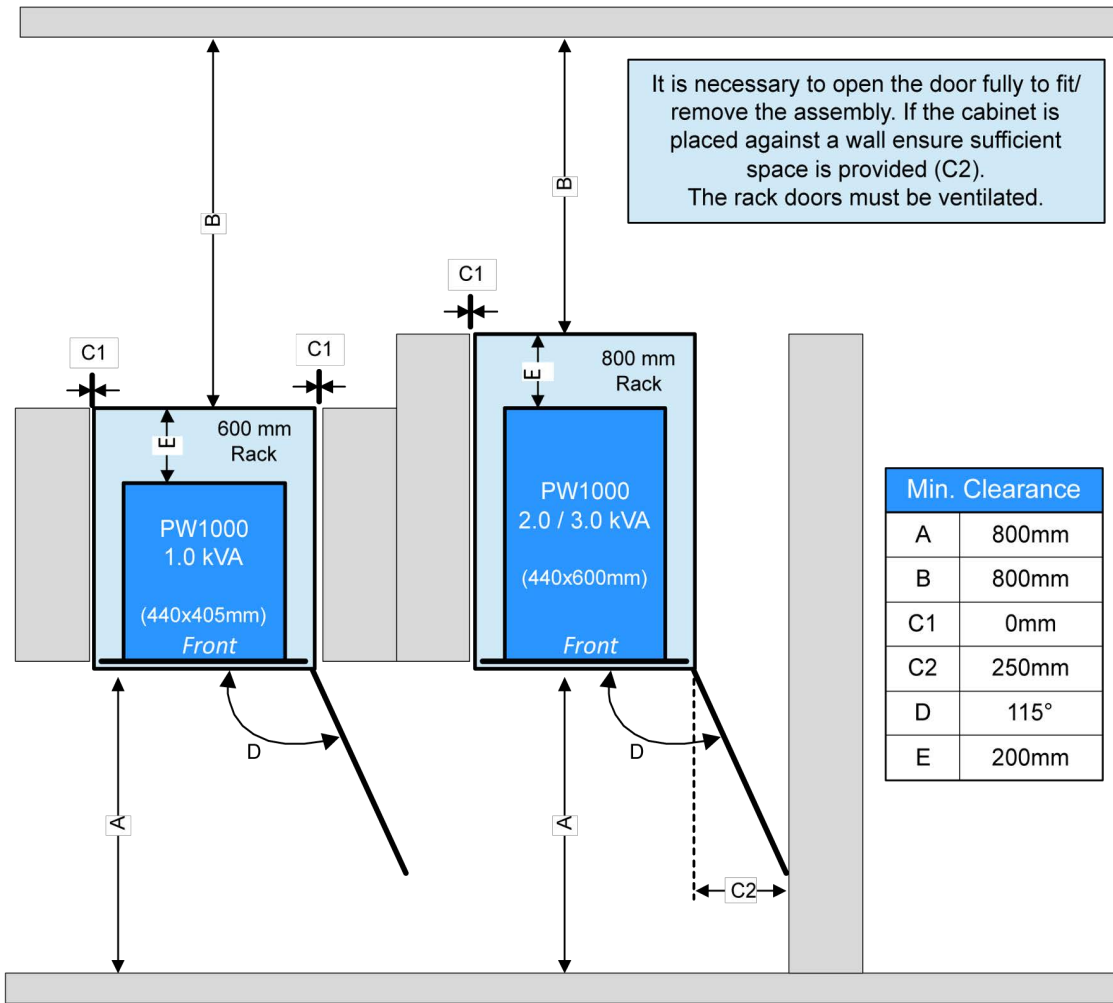

Figure 3.2 Rack mounted installation clearances
- The UPS equipment must be installed with the clearances illustrated in Figure 3.2 as a minimum